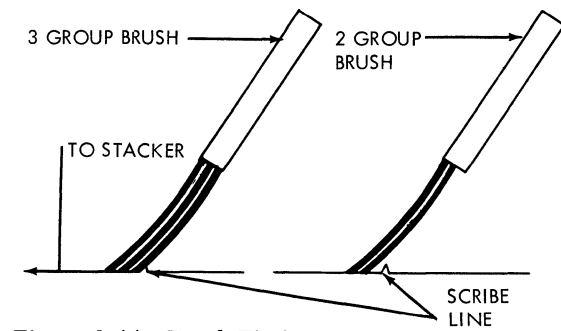

Figure 2-14. Brush Timing
2. Loosen locking screws at either end of brush assembly and shift block so that the heels of the brushes are $.050'' + .030'' - .020''$ off the scribed line on separator toward the stacker (left in read feed) (Figure 2-14).